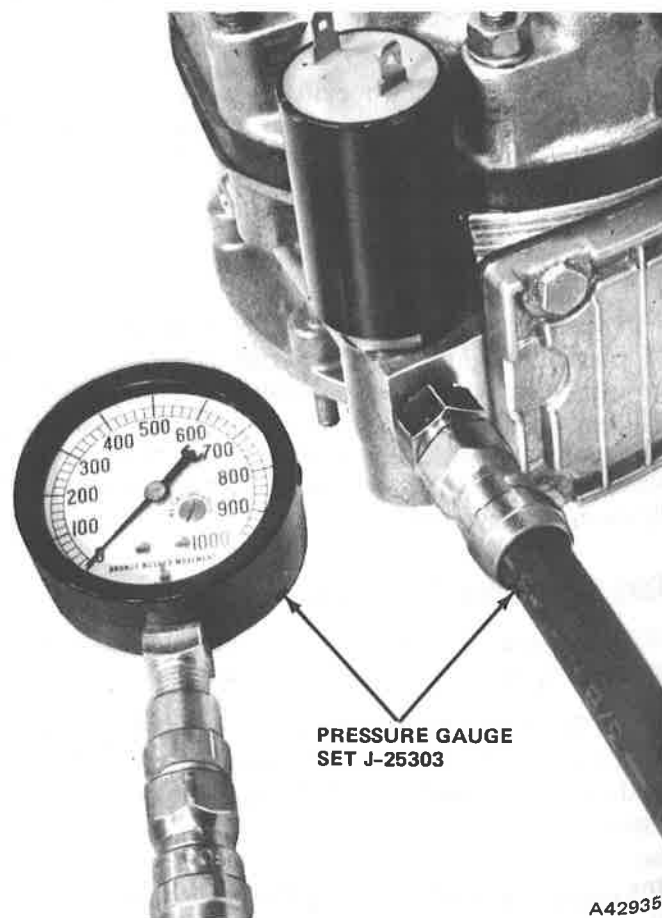

Fig. 6-35 Hydraulic Pressure Testing
(1) Lift and support car so rear wheels are free to rotate.
(2) Check and correct lubricant level at transmission as outlined in Maintenance and Lubrication.
(3) Remove main case pressure plug and copper gasket and install Pressure Gauge Set J-25303. Be sure to use copper gasket with pressure gauge adapter fitting (fig. 6-35).
(4) Place overdrive control switch in OFF position, start engine, shift transmission into Third gear, and operate at 25 to 30 mph. Hydraulic pressure should be approximately 20 to 40 psi at this speed.
(5) Press overdrive control switch in turn indicator and increase car speed to 40 to 45 mph. When overdrive engages, pressure should increase to 520 to 540 psi.
(6) Place overdrive control switch in OFF position. When overdrive disengages, hydraulic pressure should return to approximately 20 to 40 psi.
(7) Stop engine, remove pressure gauge set, and install main case pressure port plug and copper gasket. Tighten plug to 12 foot-pounds torque and lower car.